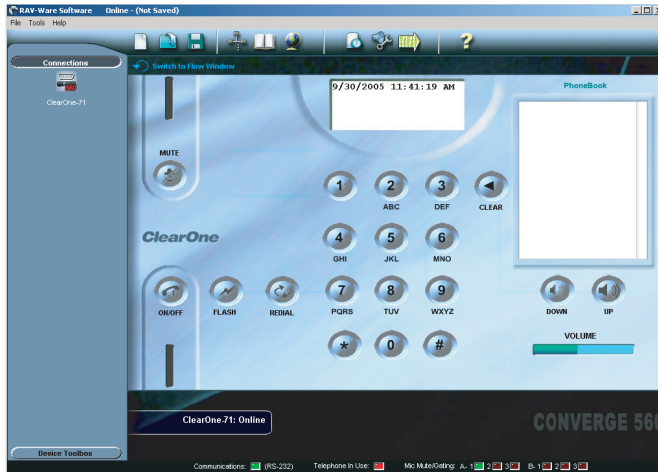

FIGURE 3.14 Dialer window
1. Click the **Phonebook Edit** button on the toolbar or select **Phonebook Edit** from the Tools menu. The Dialer window appears (see figure 3.14).